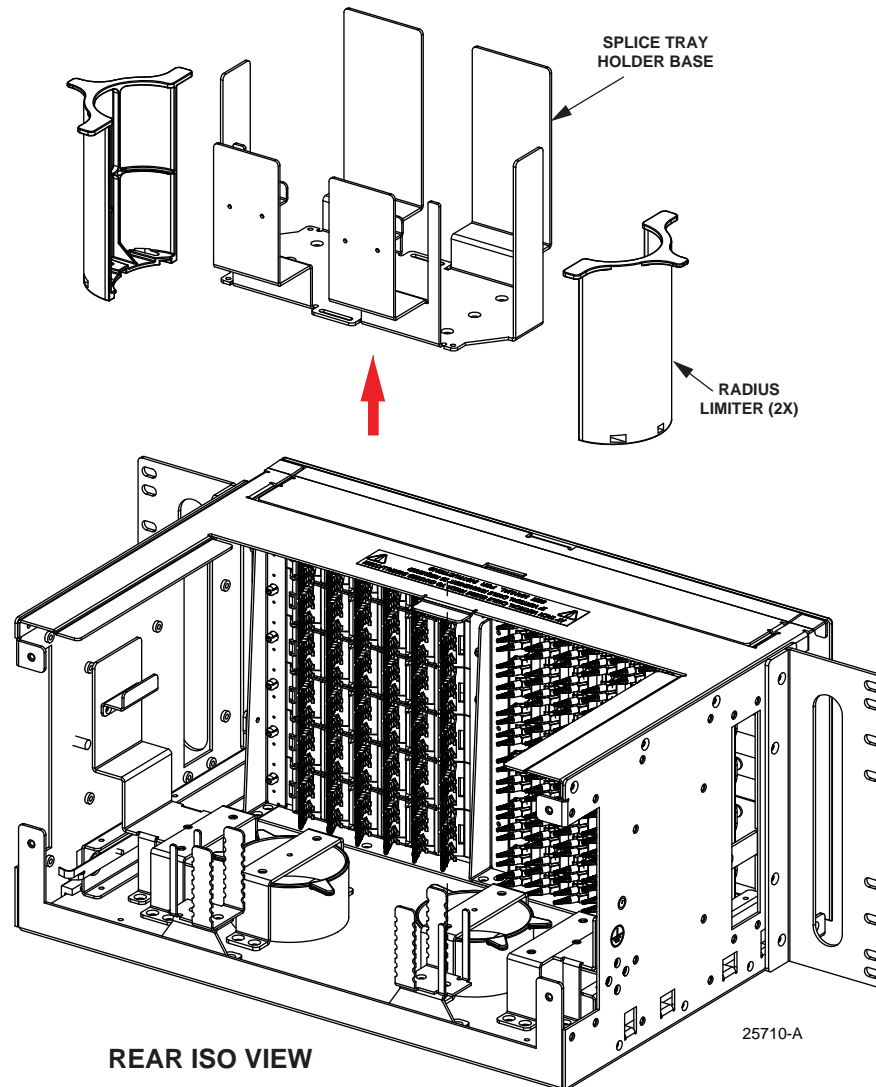
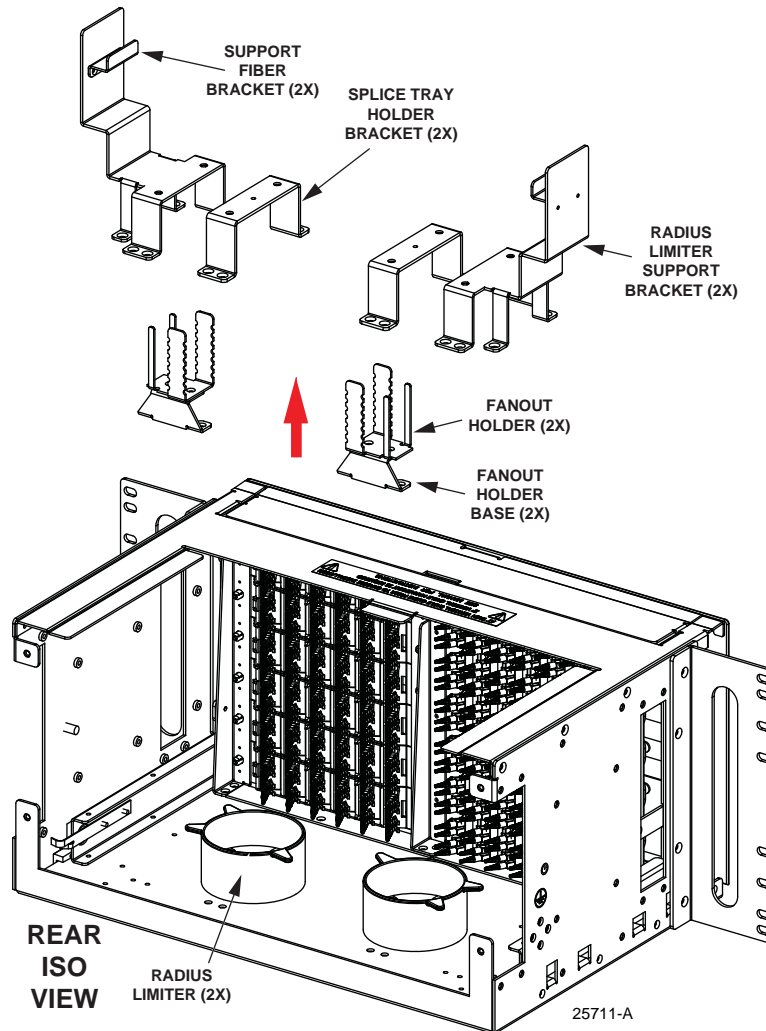

Figure 9. Removing Splice Tray Holder Base and Radius Limiters (5RU Panel Rear View)
Figure 10. Removing Additional Components (5RU Panel Rear View)
1. Using a Phillips screwdriver, remove the components shown in Figure 9:
2. Using a Phillips screwdriver, remove the additional components shown in Figure 10:
1. Using a Phillips screwdriver, remove the components shown in Figure 9 on Page 11 and Figure 10 on Page 12. Included are the following: